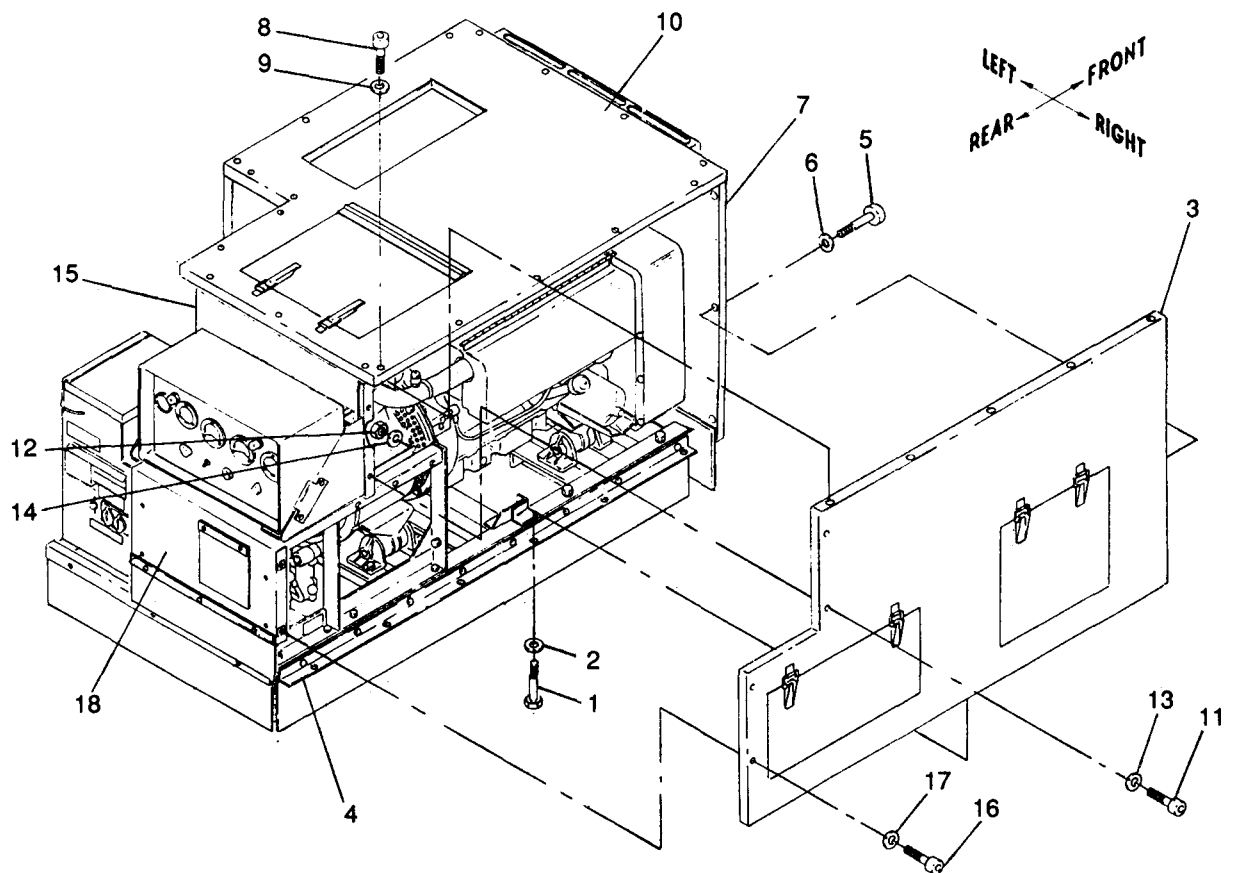

Figure 5-5. Right Panel Assembly, Removal and Installation
a. Removal. See figure 5-5. Remove right panel assembly from right support assembly, rear panel assembly, front panel assembly, top panel assembly and rear closure assembly as follows:
- (1) Remove six screws (1) and washers (2) securing right panel assembly (3) to right support assembly (4).
- (2) Remove three screws (5) and washers (6) securing right panel assembly (3) to front panel assembly (7).
- (3) Remove five screws (8) and washers (9) securing right panel assembly (3) to top panel assembly (10).
- (4) Remove two screws (11) and two locknuts (12), and four washers (13 and 14) securing right panel assembly (3) to rear closure assembly (15) and remove two screws (16) and washers (17) securing right panel assembly (3) to rear panel assembly (18) and remove right panel assembly (3).
b. Installation. See figure 5-5. Install right panel assembly to right support assembly, front panel assembly, top panel assembly, rear closure assembly and rear panel assembly as follows:
(1) Position right panel assembly (3) on right support assembly (4) and install two screws (11) and locknuts (12), and four washers (13 and 14) securing right panel assembly (3) to rear closure assembly (15) and install two screws (16) and washers (17) securing right panel assembly (3) to rear panel assembly (18).
(2) Torque screws (11) to 16 $\pm$ 2 ft-lbs dry.
(3) Torque screws (16) to 18 $\pm$ 2 in.-lbs dry.
(4) Install five screws (8) and washers (9) securing right panel assembly (3) to top panel assembly (10).
(5) Torque screws (8) to 18 $\pm$ 2 in.-lbs dry.
(6) Install three screws (5) and washers (6) securing right panel assembly (3) to front panel assembly (7).
(7) Torque screws (5) to 18 $\pm$ 2 in.-lbs dry.
(8) Install six screws (1) and washers (2) securing right panel assembly (3) to right support assembly (4).
(9) Torque screws (1) to 18 $\pm$ 2 in.-lbs dry.